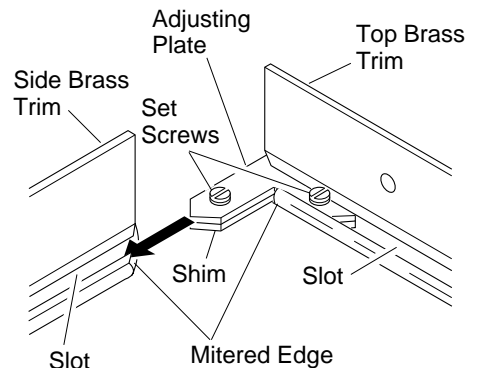

Figure 6 - Assembling Brass Trim
5. Slide other end of adjusting plate/shim in slot on mitered edge of side brass trim (see Figure 6).
3. Align shim under adjusting plate as shown in Figure 6.
4. Slide one end of adjusting plate/shim in slot on mitered edge of top brass trim (see Figure 6).